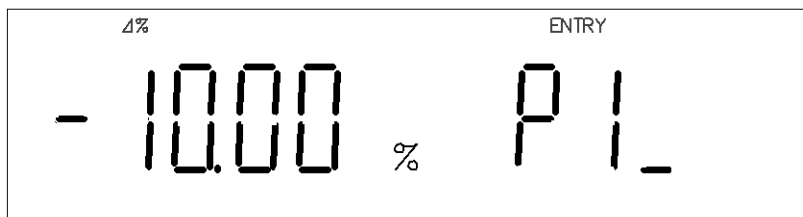

Figure 3-5 Low/high limits setup
2. Press **[LIMITS]** key, the limit parameter and its value will be displayed as shown in figure 3-5. “**P1_**” is flashing, which means that it is now in the main menu. The previous low limit value of bin 1 is displayed in the main parameter display area.